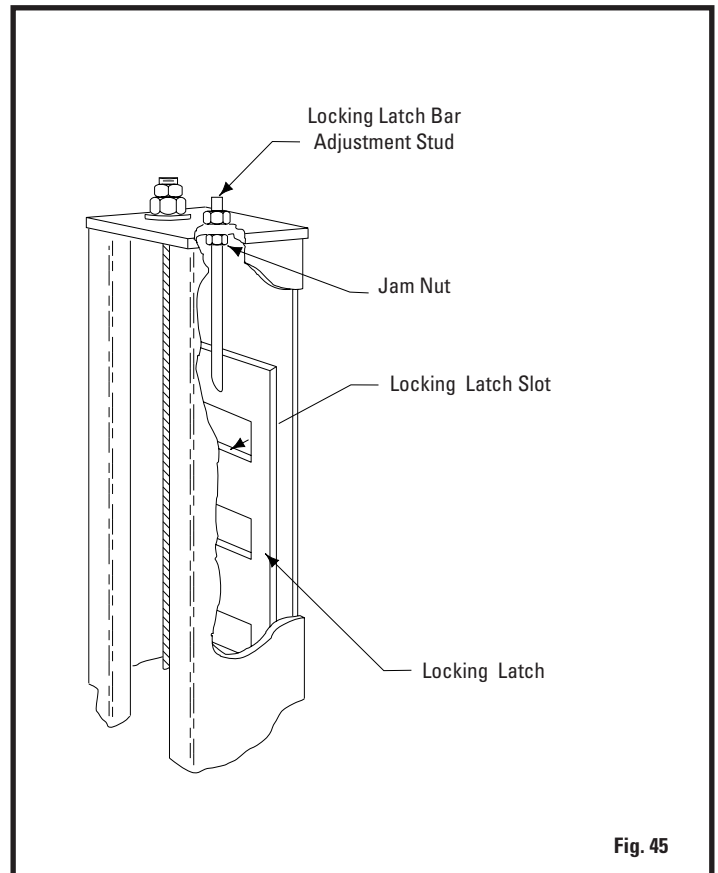

Fig. 45
- J. To complete the leveling procedures, lock each locking latch plate jam nut tightly against bottom of column top plate, Fig. 45. Also tighten down 1/4" bolt on front latch bar bases.